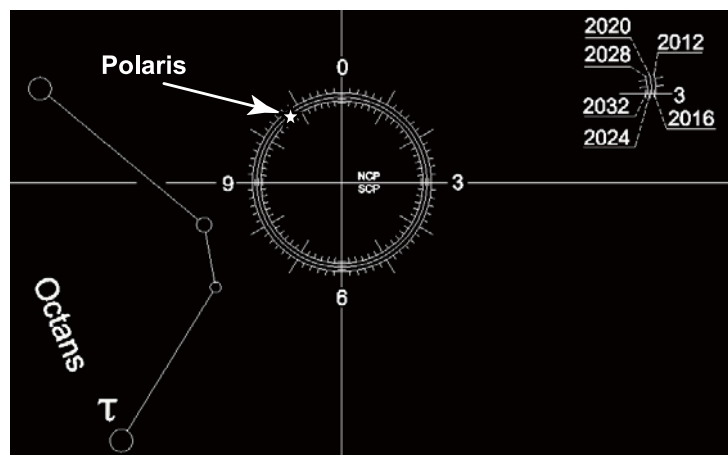

Fig 26
1. Locate both Polaris and Kochab in the sky near the North Celestial Pole. The direction from Polaris to Kochab can be used as approximation of the orientation of Polaris in the polar scope. Put Polaris in the same direction on the large central circle in the polar scope to finish the polar alignment(See Fig 26).